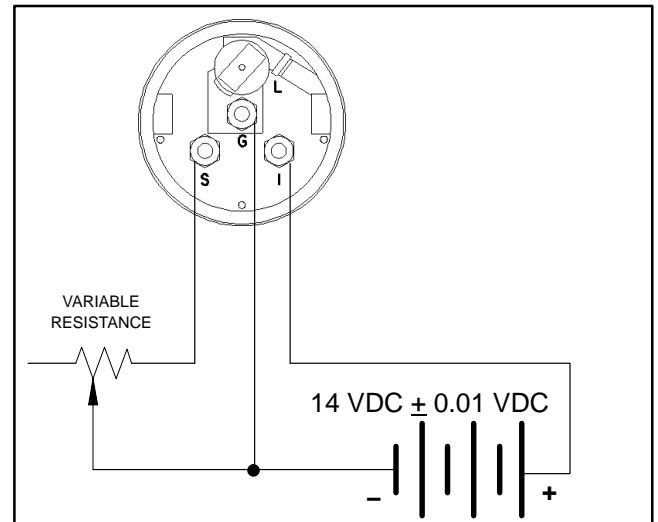

Figure 32
1. Connect fuel gauge to the variable resistance and DC voltage source (Fig. 32).